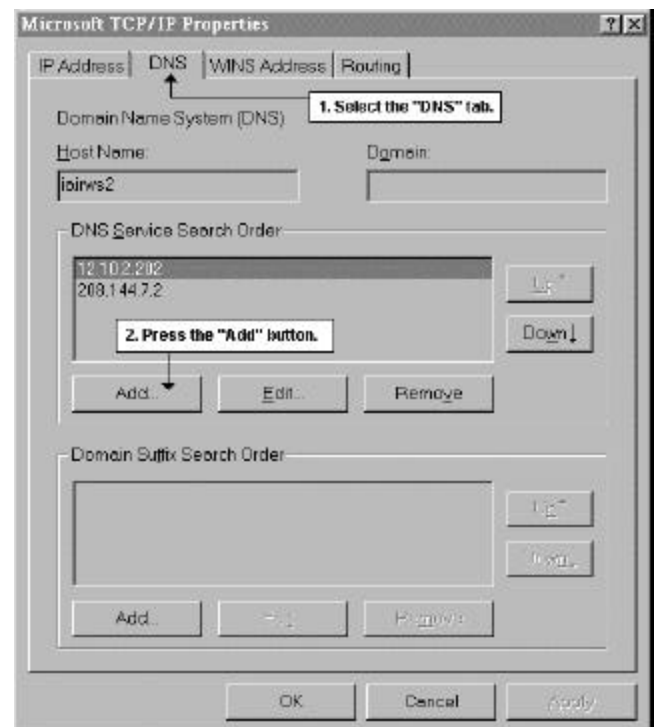

Figure 3-13 Windows NT®
b.) For Windows NT®:(see Figure 3-13)